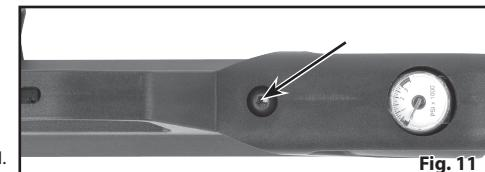

Fig. 11
- Remove the stock screw (Fig. 11) (using a 3/16" Allen wrench) to separate the stock from the action.
- **Trigger Pull** Using a 1/8" Allen wrench turn the adjuster screw (A) clockwise to increase trigger pull weight and counter-clockwise to decrease trigger pull weight. This adjustment will not affect sear engagement.
- **Trigger Position** Using a .050" Allen wrench the trigger position at rest can be adjusted. Turn screw (D) clockwise to move the trigger back and counter clockwise to move the trigger forward. This adjustment could affect sear engagement, and therefore could allow the gun to fire when dropped or jarred.
- **Trigger Stages** Using a .050" Allen wrench for adjustment of screws (B) and (C), changes can be made to the position and length of first and second stages of the trigger motion. These adjustments could affect sear engagement, and therefore could allow the gun to fire when dropped or jarred.
- Screw (B) changes the first stage. Turning screw (B) clockwise will increase the length of the first stage and decrease the sear engagement. Turning counter clockwise will decrease the length of the first stage and increase the sear engagement.
- Screw (C) changes the second stage. Turning screw (C) clockwise will cause the second stage to occur sooner while turning counter-clockwise will cause the second stage to occur later.
- Adjustment of screws (B) and (C) should be done in harmony with each other as they work together to create the trigger's profile. Start slowly to understand what each adjustment does and its relationship to the other.
2. The Armada may be tuned for various velocities by adjusting the valve metering screw. This will require removal of the stock. Remove the stock screws (Fig. 11) (using a 3/16" Allen wrench) to separate the stock from the action. Remember the action is pressurized. Keep it pointed in a safe direction.